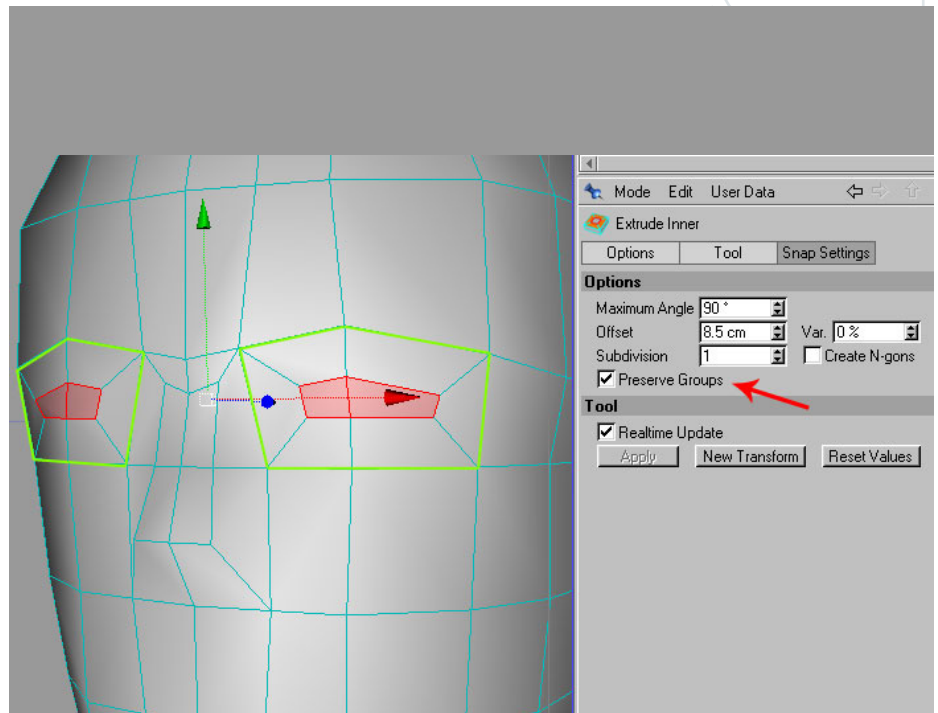

Fig 05
5. For the eyes select the polygons marked in green, then right click and select "Extrude Inner" from menu. Be sure to keep "Preserve Groups" enabled otherwise each polygon will be extruded individually, something we wish to avoid. Fig. 05